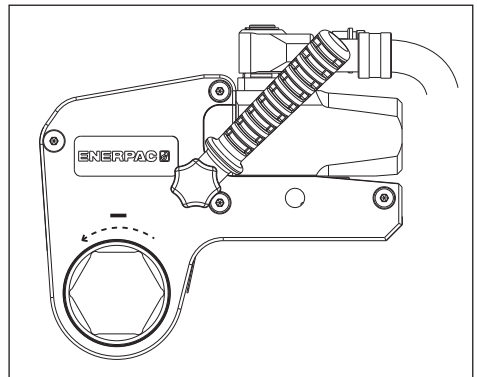

Fig. 11
4.3.3 Loosening a Nut or Bolt (Fig. 11 and 12)
- Position the reaction foot (18) against a suitable reaction point (19). The reaction point will counteract the force caused by operating the tool.